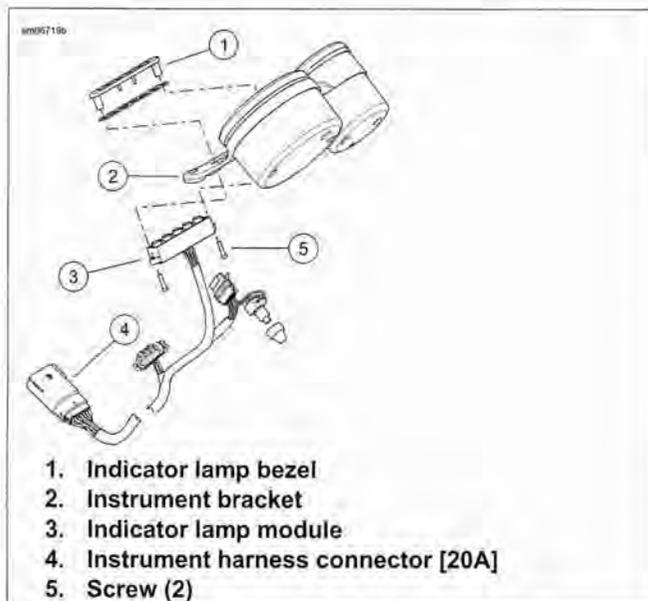

Figure 6-53. Indicator Lamps: XL 883R
2. See Figure 6-53. Holding instrument bracket (3), remove two screws with lock washers securing instrument bracket to handlebar risers.
3. Remove two screws (5) to separate indicator lamp module (3) from instrument bracket and the indicator lamp bezel (1).
8. See Figure 6-53. Assemble the indicator lamp bezel and the indicator lamp module (3) onto instrument bracket (2). Secure with two screws (5).